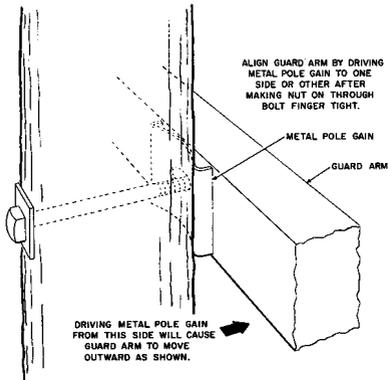

FIGURE 2. Metal Pole Gain Installed
2.02 A metal pole gain installed (as shown in Figure 2) may be used to avoid the necessity of cutting a gain in the pole.